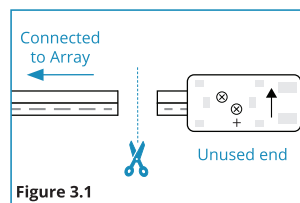

Figure 3.1
3. Cut the unused connector block off the remaining end (Figure 3.1).